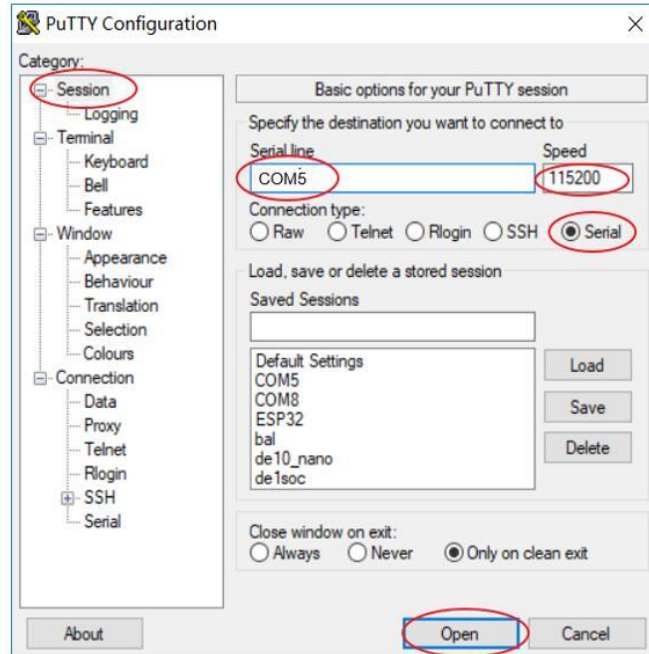

Figure 5-13 Click Open for terminal
- Click Session, turn back to original window, as shown in **Figure 5-13**. Select the Serial, make sure the COM port number & baud rate set correctly, Click Open.